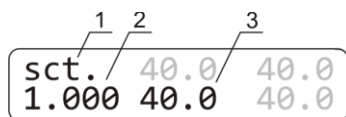

Figure 2. Display in calibration mode: 1. Calibration mode indicator; 2. Calibration coefficient; 3. Temperature with current coefficient
6.2. To change the calibration coefficient, hold the **TIME RUN/STOP** key pressed for more than 8 s to activate calibration mode. The calibration coefficient appears on the display (fig. 2).
Note. Values marked in grey on figures 2 and 3 are not used in calibration and are meant for service engineers.
6.3. **Restoring factory settings.** Set 1.000 value using the **▲** and **▼ T, °C** keys as shown on fig. 2/1 to restore the factory settings. Press the **RPM RUN/STOP** key once to save the changes and exit the calibration mode.
6.4.5. Hold the **TIME RUN/STOP** key pressed for more than 8 s to activate calibration mode (fig. 2).